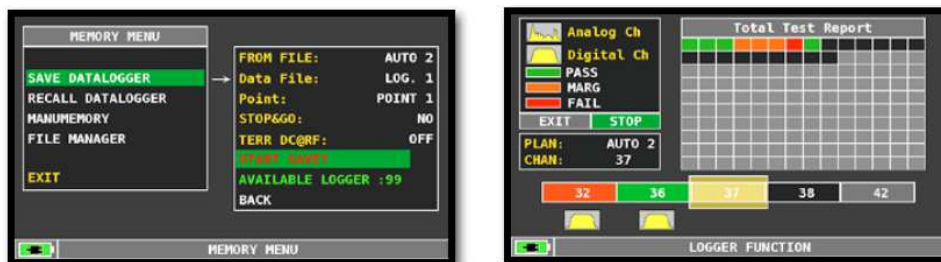

Fig.5 Logger in progress with the corresponding measurements results. At the end of the logger the meter
- **CONTINUOUS:** this makes the logger run without end, looping though the programmes in the CHN file until it is not manually stopped. This allows continuous testing on a set of memorized programmes while making changes to the distribution parameters until the proper results are not obtained (all green squares! Ref. fig. 5).
RED = FAIL, AMBER = MARGINAL, GREEN = PASS. Ref. Fig. 5.